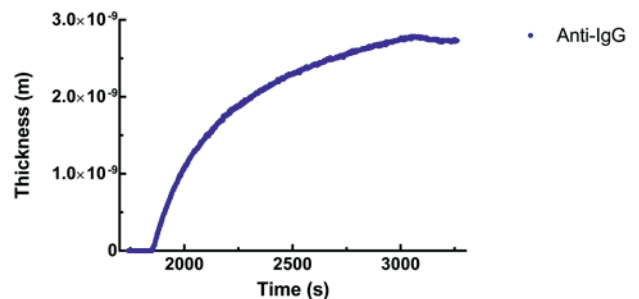

Figure 2. Thickness changes upon interaction of 70 nM Anti-bovine-IgG with immobilized bovine IgG on QSX 341.
- Usage include antibody optimization (Figure 2), protein-protein interactions and probing of conformational changes